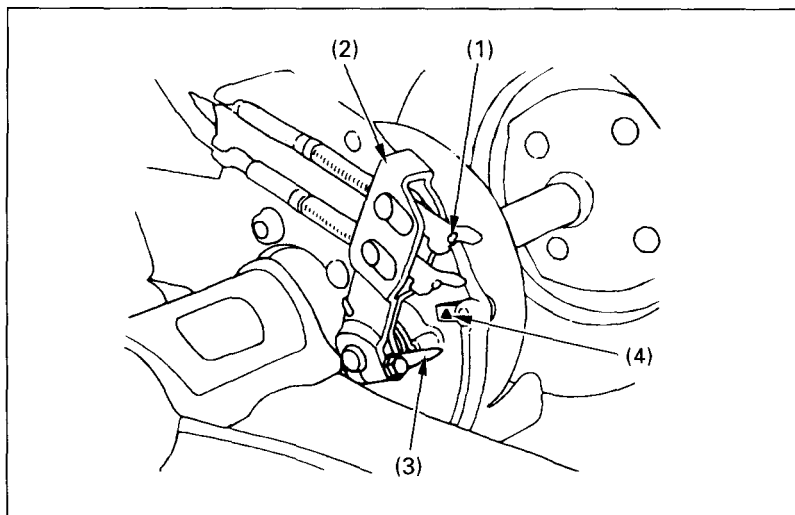

Fig. 4-30 (1) Brake lever adjusting nut (3) Arrow
When the brake is applied, an arrow (3) attached to the brake arm (2) moves toward a reference mark (4) on the brake panel (see Fig. 4-30).